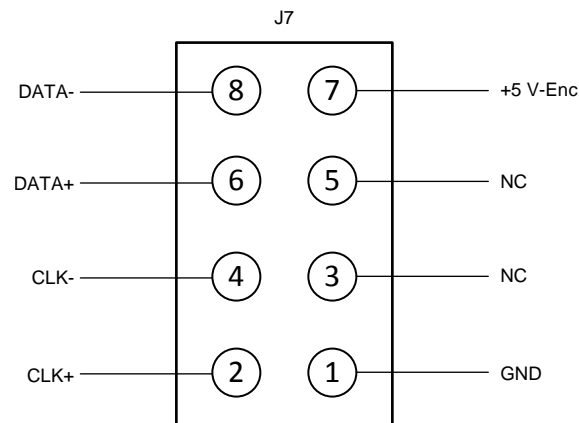

Figure 11. Abs-Enc-1 (J7) Pinout on TIDM-1008 Board
- b. Insert the header of the adaptor created in the previous step to connect to Abs-Enc-1 (J7). The female end of the Heidenhain cable connect to the encoder. The pinout of J7 is shown Figure 11.